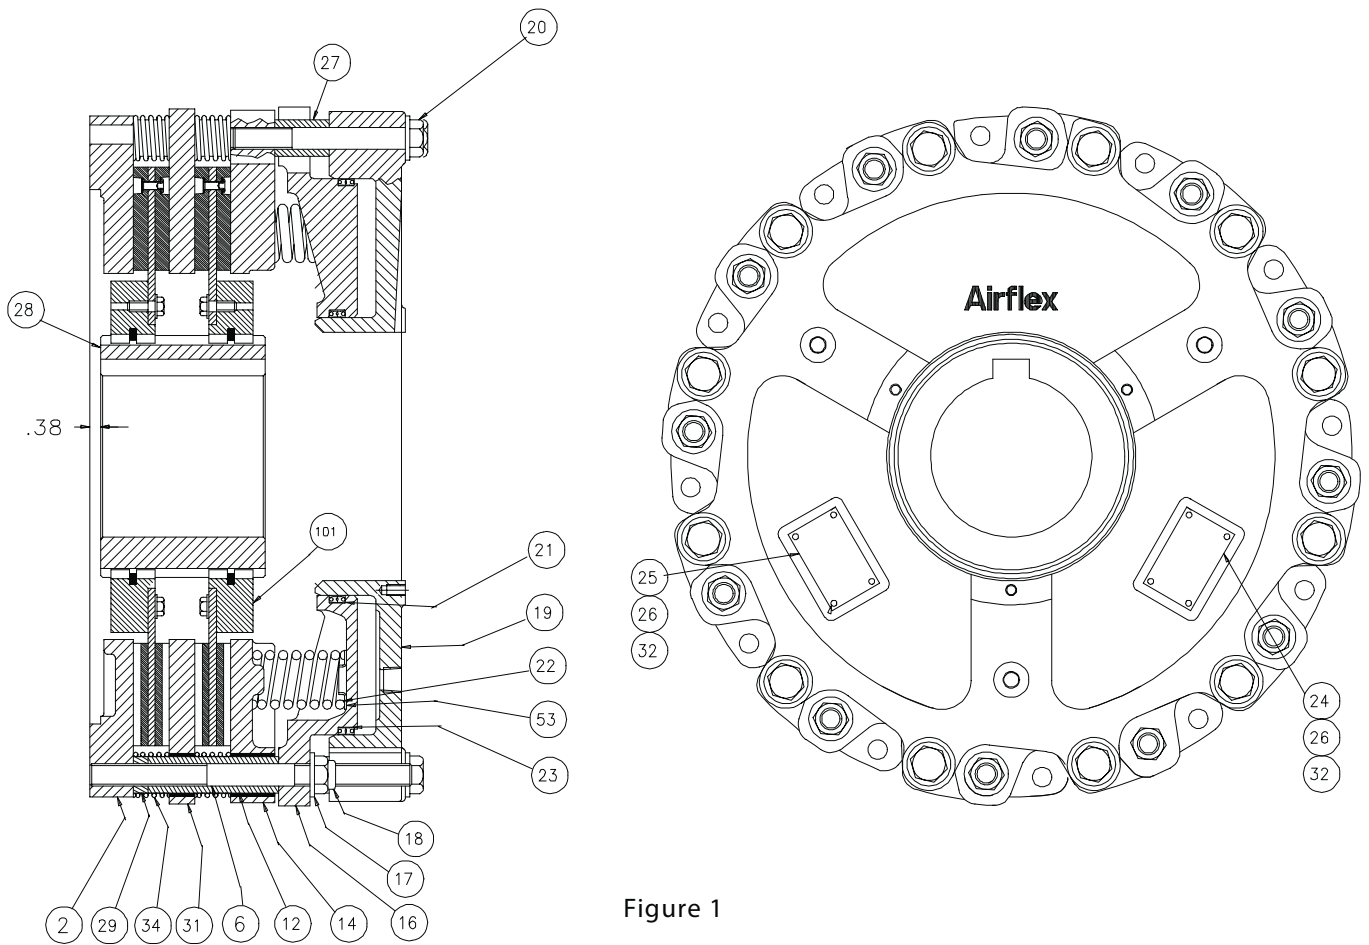

Figure 1
- 1.2.1 Referring to Figure 1, the gear (28) is mounted on the shaft which is to be stopped and the brake assembly is attached to the machine frame or a reaction bracket. As air pressure is applied through the ports in the cylinder (19), the cylinder and pressure plate (13), which are attached to each other with screws (20), flat washers (17) and spacer tubes (27), move away from the mounting flange (1), which is connected to the machine frame or reaction bracket. The pressure plate compresses the springs (22) against the stationary spring housing (16) and the clamp force is removed from the friction disc assembly (7) which rides on the gear. The shaft is then free to rotate. As air pressure is exhausted, the springs force the pressure plate toward the mounting flange, clamping the friction disc assembly between the two members. On dual disc models, an additional friction disc assembly and a reaction plate (30) are clamped between the pressure plate and mounting flange.
Do not paint the clamp tubes (12) or the springs (34) as shown on Figure 1, as this may hinder the engagement or disengagement of the brake.
- 2.1.1 Figure 1 shows the relationship between the brake mounting surface and the end of the gear (dimension ".38" on Figure 1). The gear is bored and keyed for a resulting Class FN2S interference fit for inch shafting and ISO System S7h6 for metric shafting.
2.2.3 Press the gear onto the shaft, making sure the dimension between the gear and the brake mounting surface (.38") is maintained. See Figure 1 and . Heating the gear uniformly to approximately 250°F (121°C) will expand the bore and ease assembly.